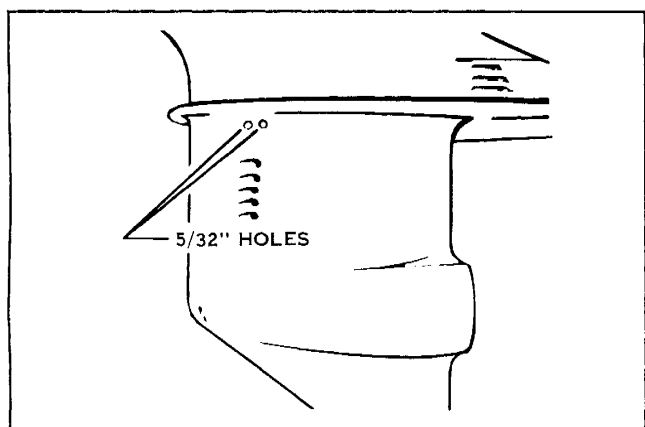

FIGURE 6
10. Inspect gearcase casting below cavitation plate for two $5/32$ " diameter holes. See Figure 6. If no holes are found, proceed as follows: